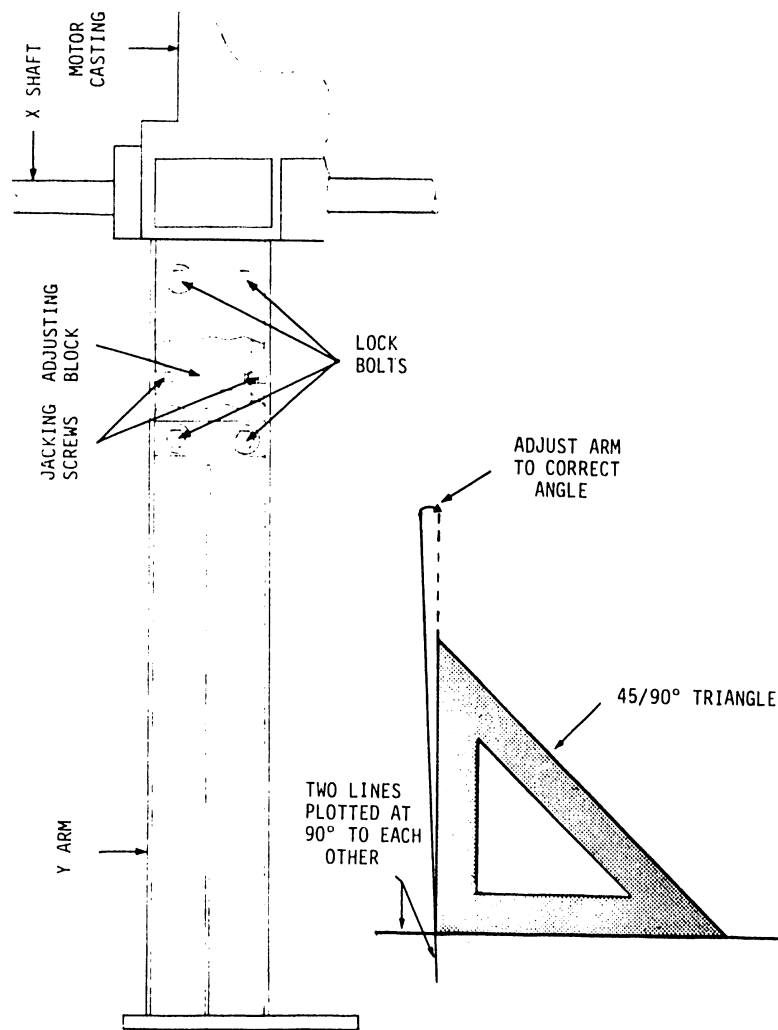

FIGURE 10
- 1) The Y arm must be square to the X shaft within .010" (.025) over a 30" (76.2) length. This is checked with a large triangle placed on a 90° plot as shown in Figure 10. The trial plot may be generated by subroutine 0014 on tape #8560.
- 2) To adjust the Y arm, loosen the lock bolts on the motor casting where it connects to the Y arm, and shift the adjusting block by loosening one jacking screw and tightening the other. See Figure 10.